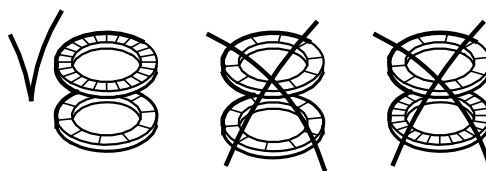

**Fig. 13** Fitting the spring and driver
7. Fit spring (pos. 108) and driver (pos. 112). See fig. 13.